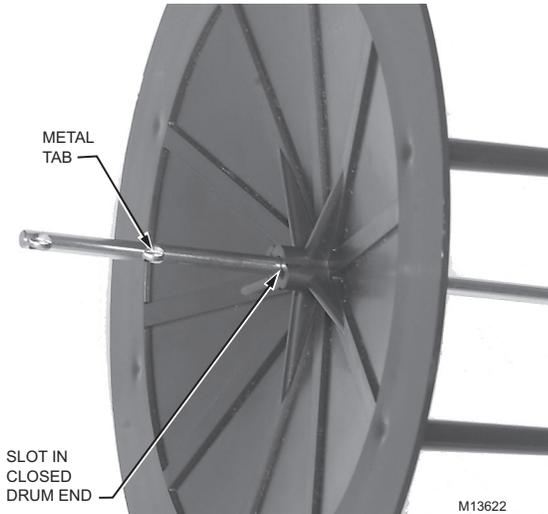

Fig. 16. Installing Closed Drum End.
1. Slide Closed Drum End over Drum Shaft with round posts facing away from metal tabs. See Fig. 16. (Slots in cone end should rest over metal tab.)